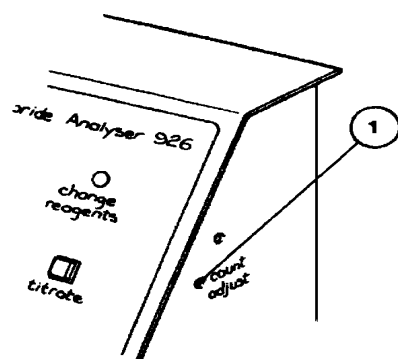

Figure 8.2 Calibrate Control
4. Using a screwdriver adjust the *count adjust* control through the hole in the side panel, item 1, figure 8.2. If the reading is low adjust the control clockwise, if high adjust the control counter-clockwise. The sensitivity is approximately a change of 16mgCl/l for one complete rotation.